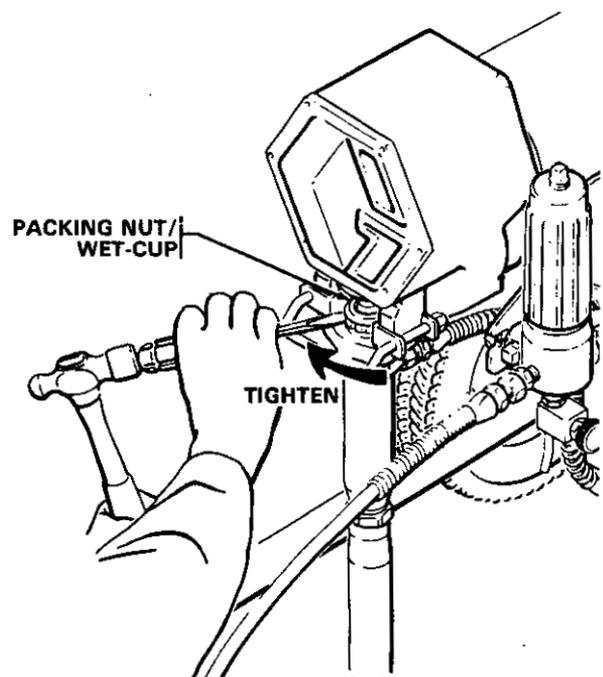

Fig 6
1. **Check the packing nut/wet-cup daily.** First follow the **Pressure Relief Procedure Warning** on page 10. Be sure the wet-cup is 1/3 full of TSL at all times to help prevent paint buildup on the piston rod and premature wear of packings. The packing nut should be tight enough to stop leakage, but no tighter. Overtightening may cause binding and excessive packing wear. Use a screwdriver and light hammer to adjust the nut. See Fig 6.